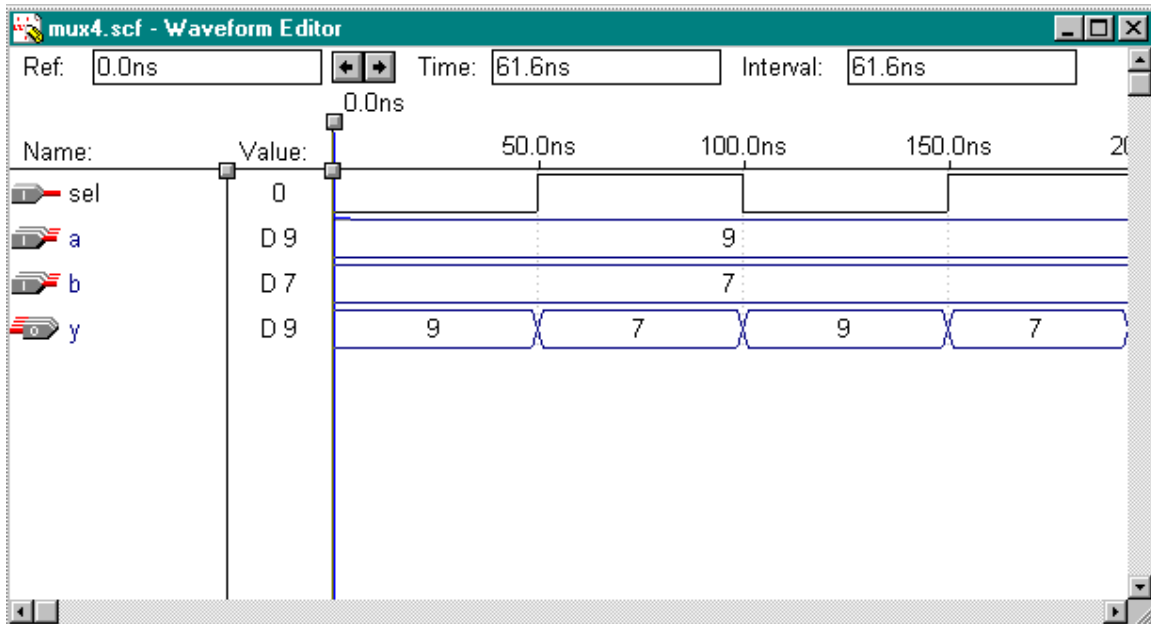

Figure 2-2.
5. Check to see if you get the same results shown in Figure 2-2.